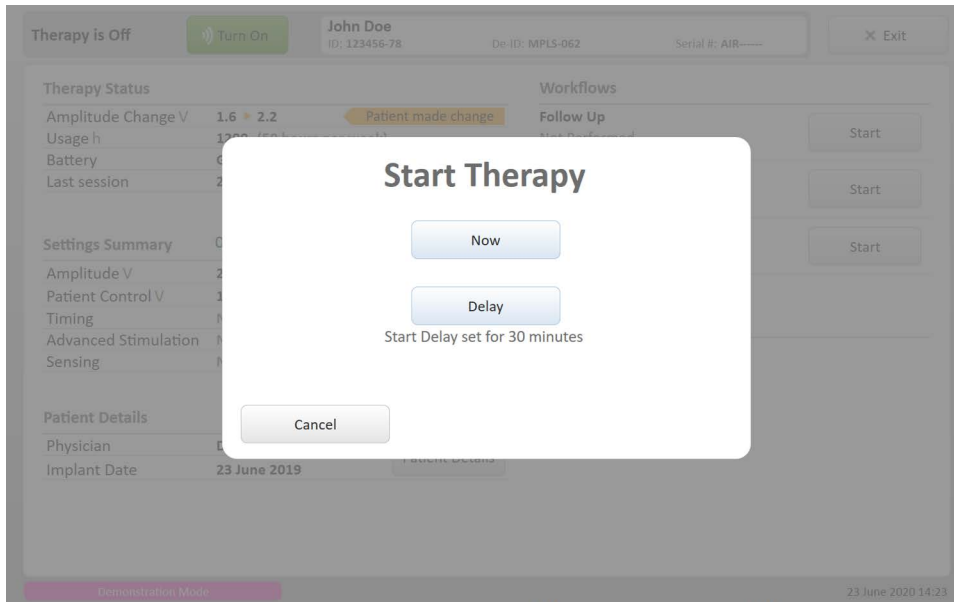

Figure 5-2. Start Therapy Screen
- **Turn On/Turn Off Therapy Button** — Select button to turn stimulation on or off. Turning stimulation on accesses the Start Therapy screen (Figure 5-2), where you may choose to start therapy immediately or postpone until the start delay expires.